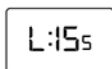

Figure8
4.2.3.1 After finishing operation 4.2.2, press "MD" + "R" to set the ringing duration of the bell, see Figure 8. It means ring the bell for 15 seconds. After setting, press "MD" key to exit.